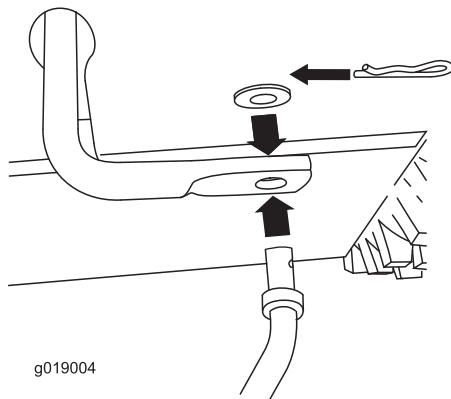

Figure 5
1. Insert the lower end of the rod into the lower link arm so that the bent end of the speed-control rod faces rearward (Figure 5).
2. Secure the lower end of the speed-control rod with a flat washer and a hairpin cotter (Figure 5).